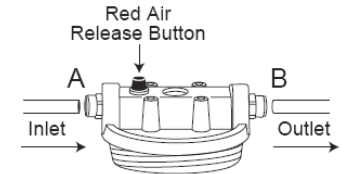

Figure 5
7. Insert water supply line to port marked "IN" (see Figure 5, A) and insert faucet line to port marked "OUT" (see Figure 5, B). Referring to section "Using Push-in Fittings," insert plastic tubing into fittings, making sure end of tubing is firmly seated to backstop.